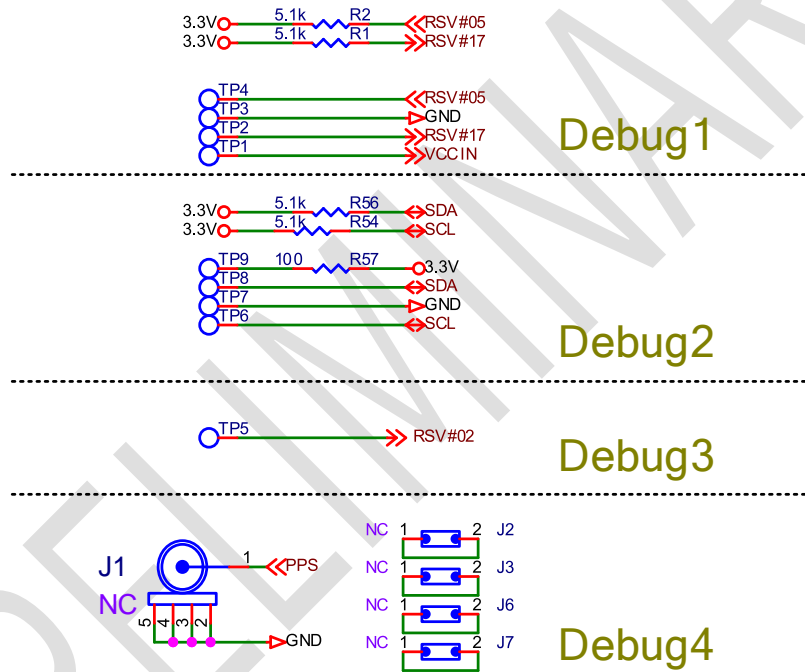

Figure 7-1 Debug Ports
- Removing R22, connecting a power supply wire at TP1 and a ground wire at TP3 (as shown in Figure 7-1), you can use an external power to supply the module. This method can be used to measure the input voltage and current of UM960 series.